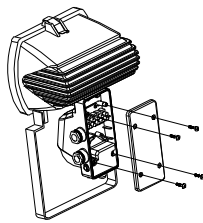

FIGURE 5
- 1) Undo the four fixing screws from the wiring box cover and remove the cover (FIGURE 5).